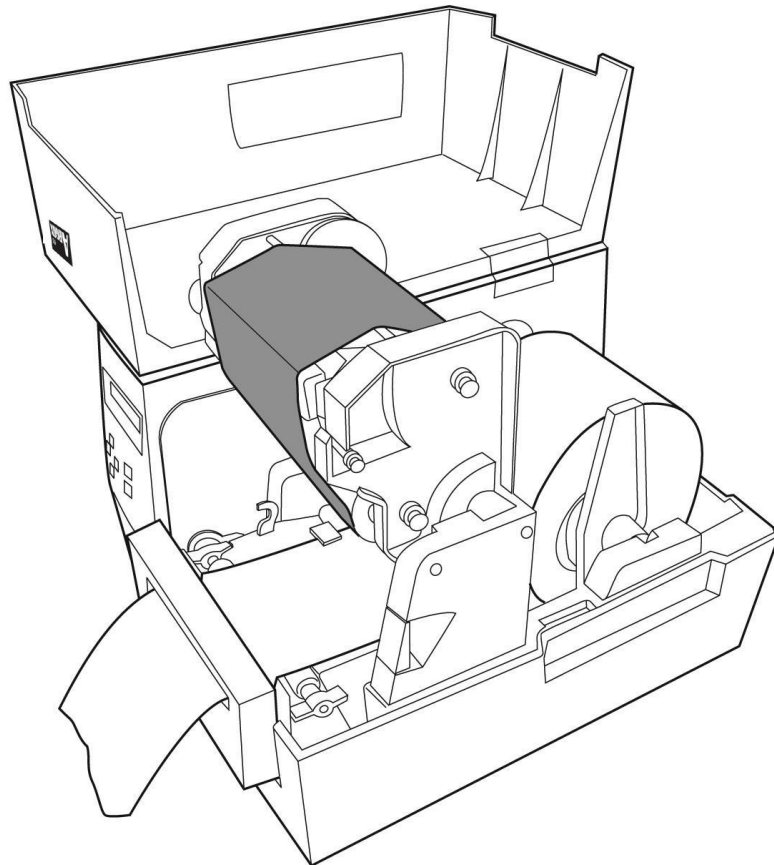

Figure 15
7. Thread the media over the platen roller, and then route the media through the slot of the cutter module. (Figure 15)